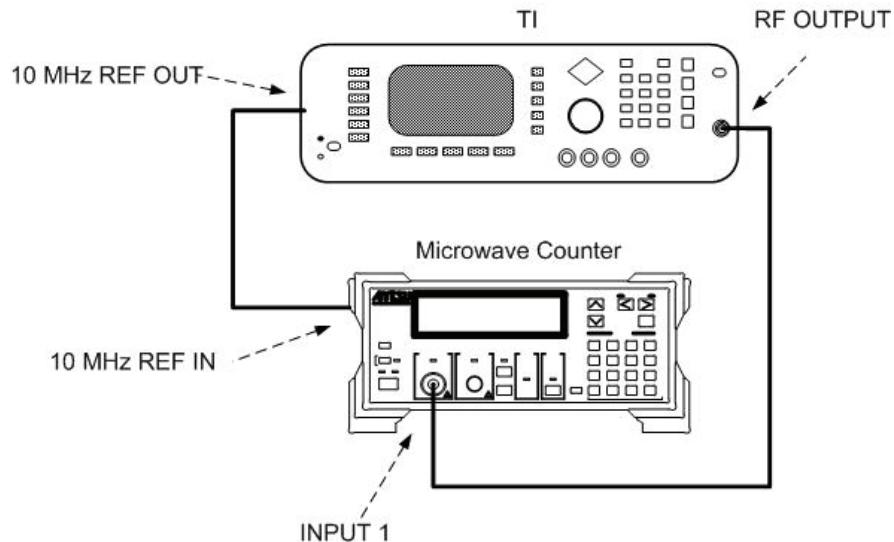

Figure 2. Frequency resolution accuracy hook-up.
- Connect equipment as indicated in figure 2.